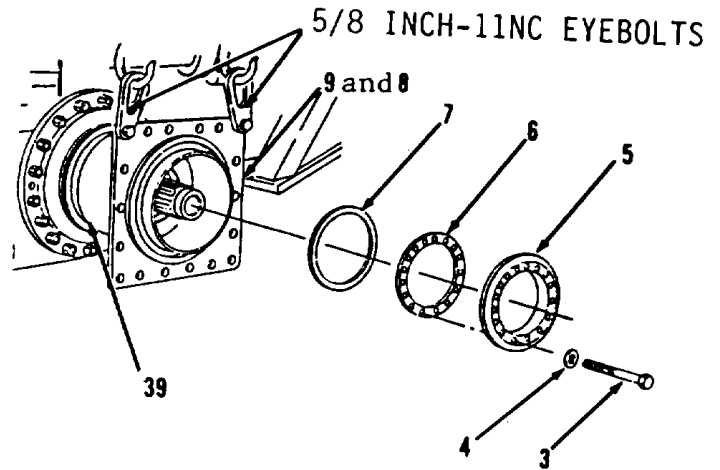
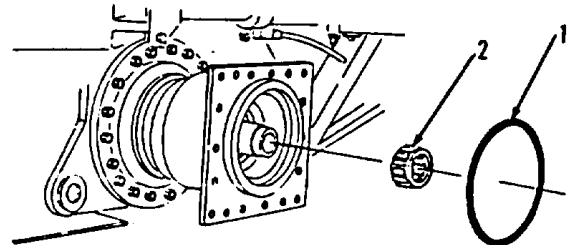

Figure 5-143.
Figure 5-125.
22. Install two 5/8-IINC eyebolts in items 9 and 8 as an assembly (Figure 5-143).
23. Using hoist and sling, position items 9 and 8 as an assembly on lower rear, left side of vehicle.
24. Install washer (7), shim(s) (6), retainer (5), 16 washers (4) and bolts (3).
25. Apply grease to washer (7) after installation. Adjust shim(s) (6) to provide 0.0 to 0.0025 inch end play between inner housing (39) and outer housing (8). Tighten 16 bolts (3) to 260 to 280 ft-lb torque.
27. Install roller bearing (2) and new preformed packing (1, Figure 5-125).